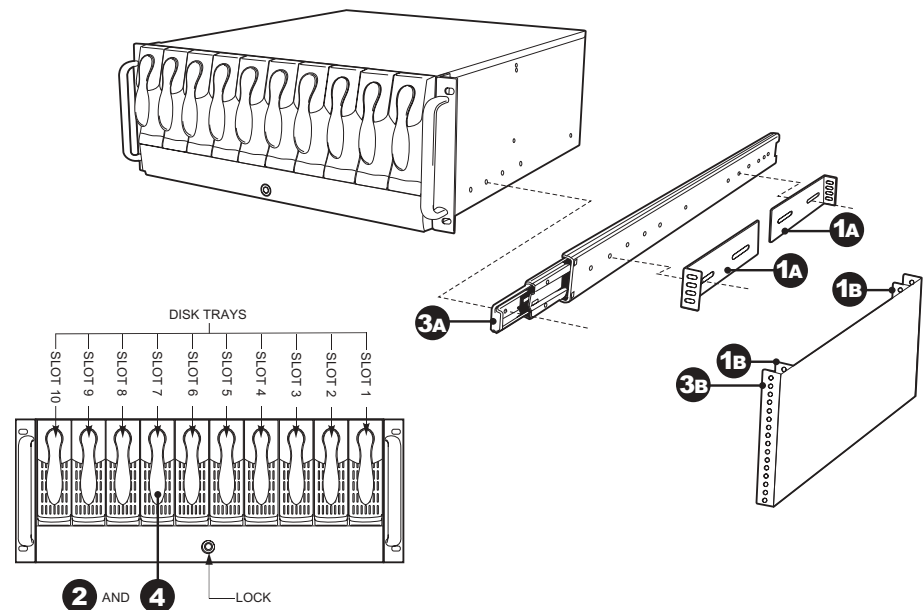

Figure 1. Installation of Sliding Rails
The equipment rack must have two sets of mounting rails at the front and back of the rack (items 1B and 3B in Figure 1).